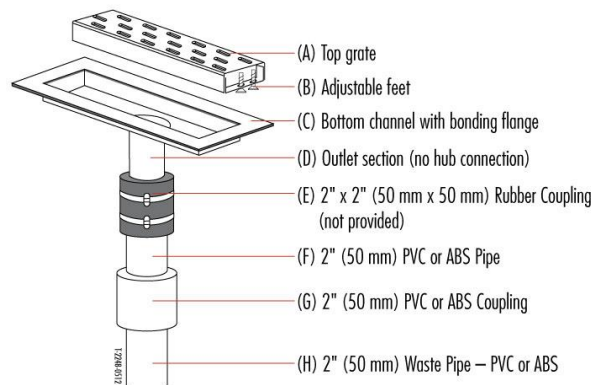

Fig. 3
**Instructions to make a drain waste line connection with no access to tighten rubber coupling.** Fig. 3 cut the 2" (50 mm) waste line (H) so the drain, a 2" (50 mm) rubber coupling (E), a length of 2" (50 mm) plastic pipe (F) (plastic pipe material should match waste line and plastic coupling material) and 2" (50 mm) plastic coupling (G) can be added to the drain outlet. Cement a 2" (50 mm) plastic coupling (G) to the length of the 2" (50 mm) diameter plastic pipe (F) using the appropriate cement for either PVC or ABS. Attach the rubber coupling (E) to the linear drain outlet and the length of 2" (50 mm) diameter plastic pipe (F). Tighten hose clamps on 2" (50 mm) rubber coupling (E). The final connection is made when the linear drain is installed by cementing the free end of the 2" (50 mm) diameter coupling (G) to the waste line (H). Side outlet drains will be installed the same as the vertical waste line connections except the plumbing connections will be made through the wall.